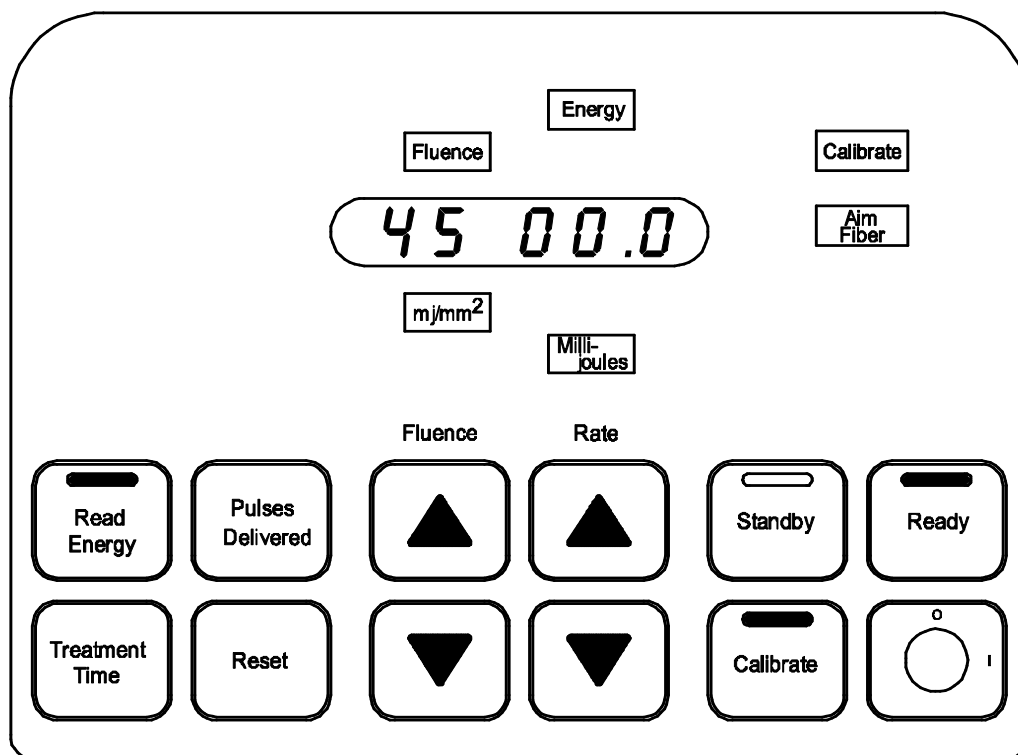

Figure 11
5. The yellow Ready status on the top of the control panel, **Aim Fiber**, **Energy**, **Millijoules**, **Calibrate**, **Calibrate** button, and **Ready** button lights are illuminated. The display window shows 00.0 on the three rightmost digits. (Figure 11)